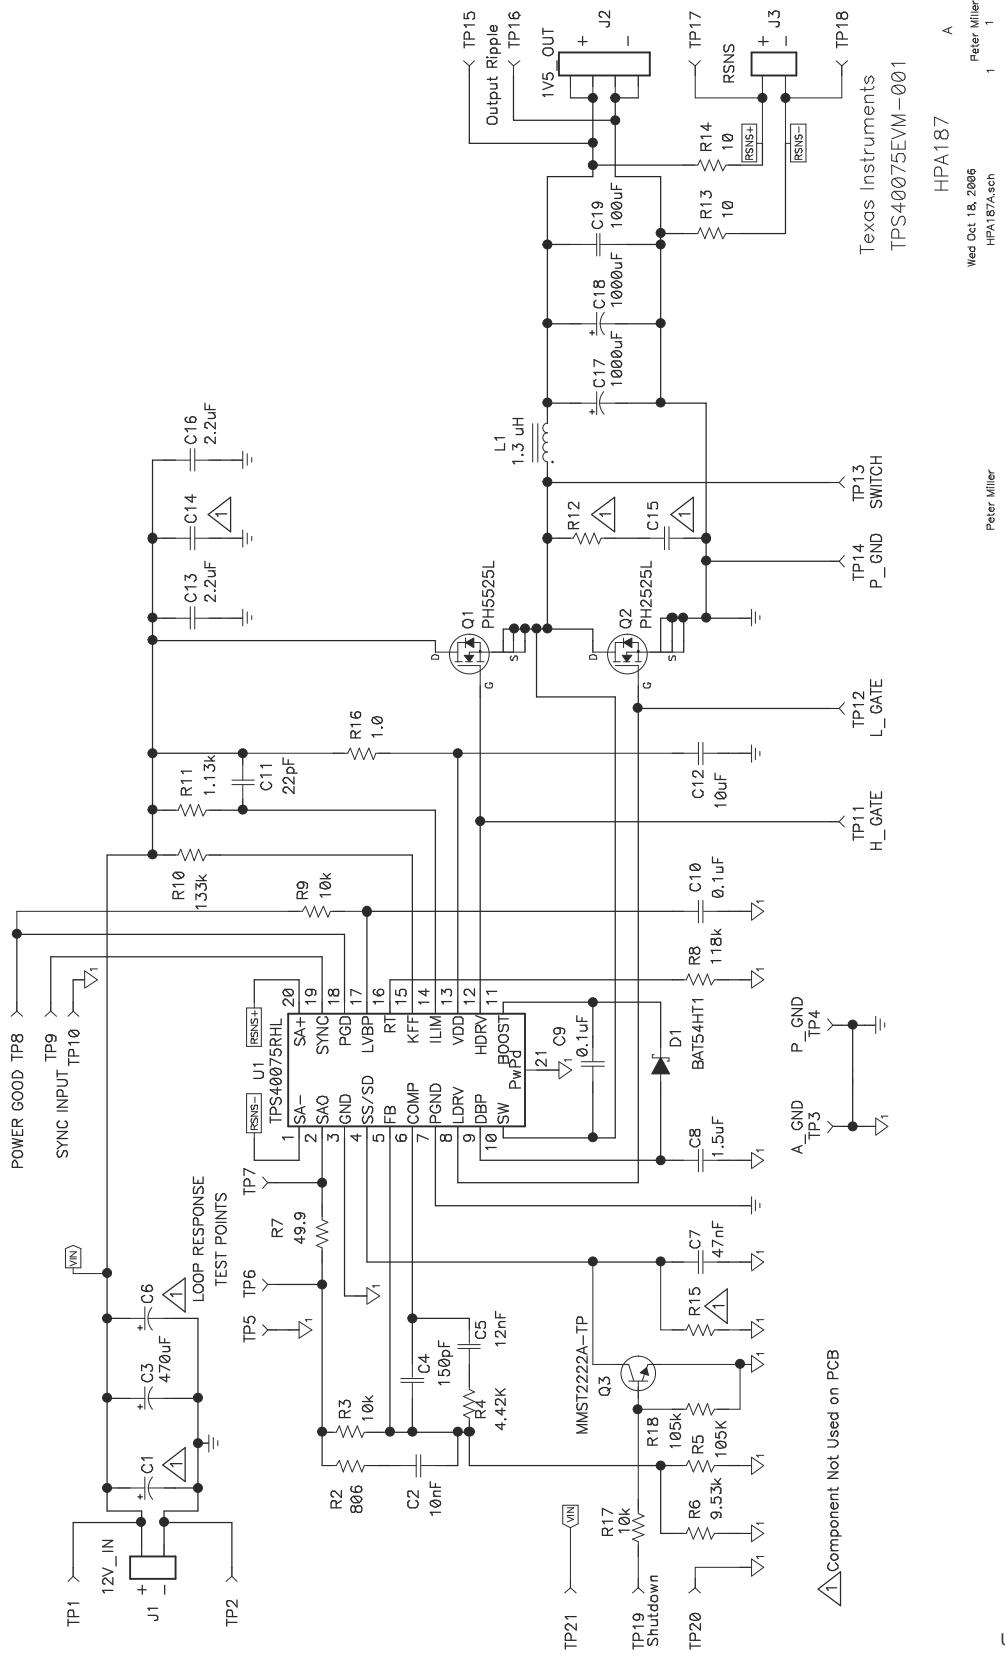

Figure 3-1. TPS40075EVM-001 Power Stage/Control Schematic Reference Only, See Table 3 for Specific Values
5. Connect LOAD1 to J2 as shown in Figure 3-1. Set LOAD1 to constant current mode to sink 0 A_{DC} before V_{12V_IN} is applied.